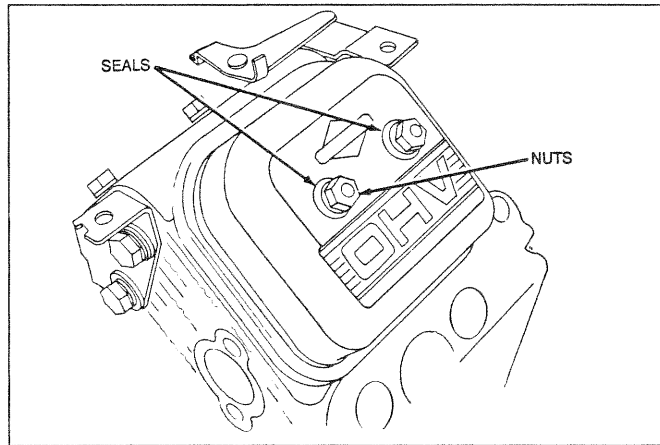

Figure 83. Valve Cover Removal
- See Figure 83. Remove two nuts and seals from valve cover. Remove valve cover and gasket.